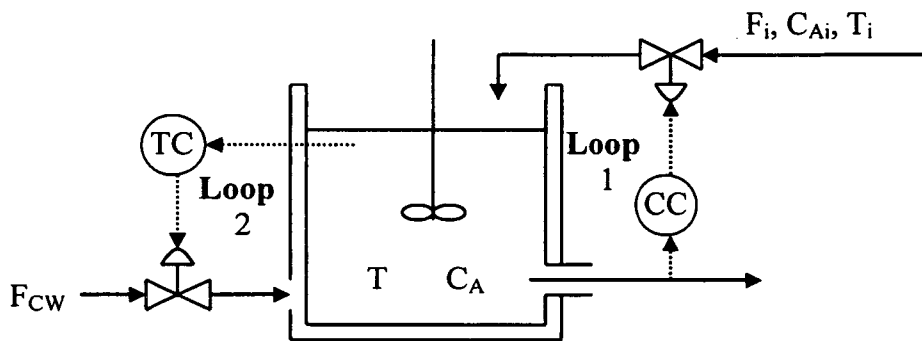

Figure 8. Control loops for CSTR.
- i) Consider the Continuous Stirred Tank Reactor (CSTR) given in Figure 8. The inlet flow rate F_i is used to control the product concentration C_A (loop1) and the coolant flow rate F_{CW} to control the tank temperature T (loop 2). The input stream is coming from an upstream unit and might vary both in concentration C_{Ai} and temperature T_i .